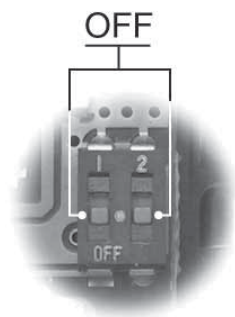

Fig. 7.h.a
- open the rear hatch of the key and place the dip-switch n. 1 in the OFF position and the dip-switch n. 2 in the ON position (see Fig. 7.j.b). Close the hatch;